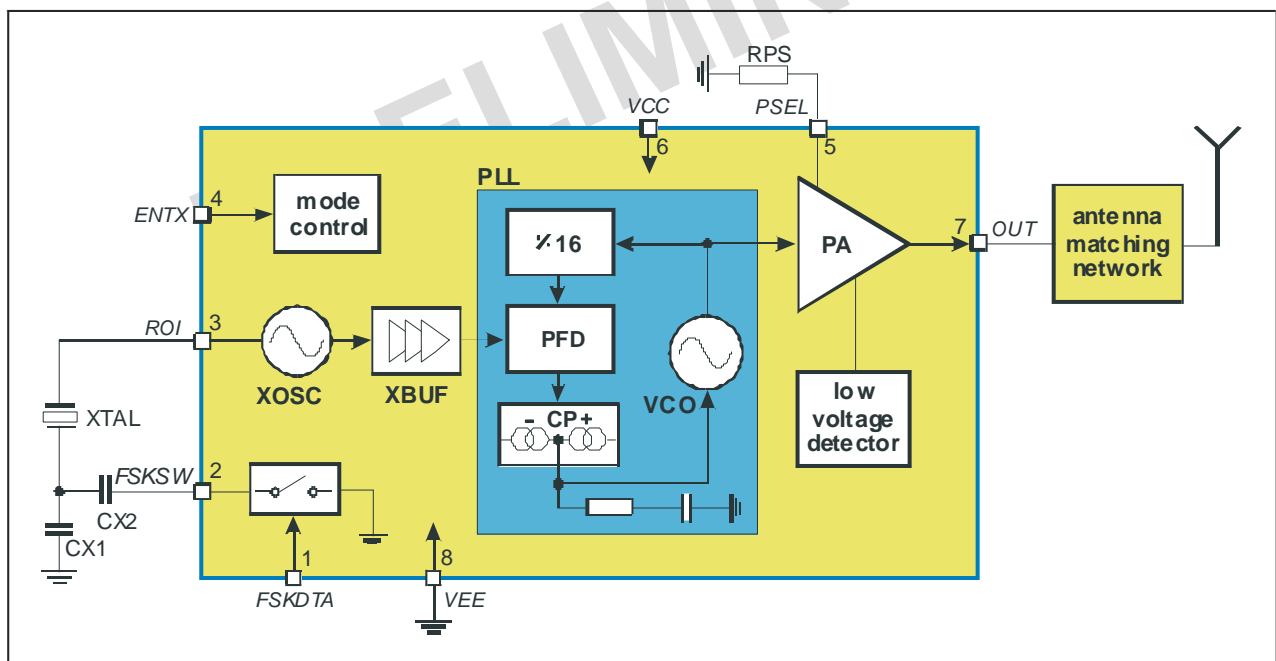

Fig. 1: Block diagram with external components
As depicted in Fig.1, the MLX72013 transmitter consists of a fully integrated voltage-controlled oscillator (VCO), a divide-by-16 divider (div16), a phase-frequency detector (PFD) and a charge pump (CP). An internal loop filter determines the dynamic behavior of the PLL and suppresses reference spurious signals. A Colpitts crystal oscillator (XOSC) is used as the reference oscillator of a phase-locked loop (PLL) synthesizer. The VCO's output signal feeds the power amplifier (PA). The RF signal power  $P_{out}$  can be adjusted in four steps from  $P_{out} = -16$  dBm to  $+12$  dBm, either by changing the value of resistor RPS or by varying the voltage  $V_{PS}$  at pin PSEL. The open-collector output (OUT) can be used either to directly drive a loop antenna or to be matched to a 50Ohm load. Bandgap biasing ensures stable operation of the IC at a power supply range of 1.95 V to 5.5 V.